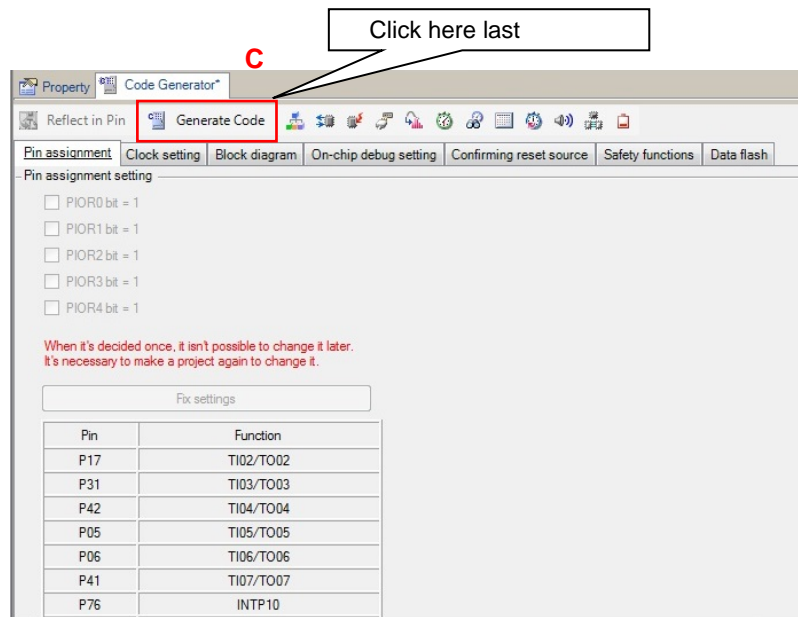

Figure 2.3 Code Generator Setting Window (3)
- (4) On completion of all the function settings, click the [Generate Code] button at the top of the window (Figure 2.3 C) to generate codes (automatic source code generation).